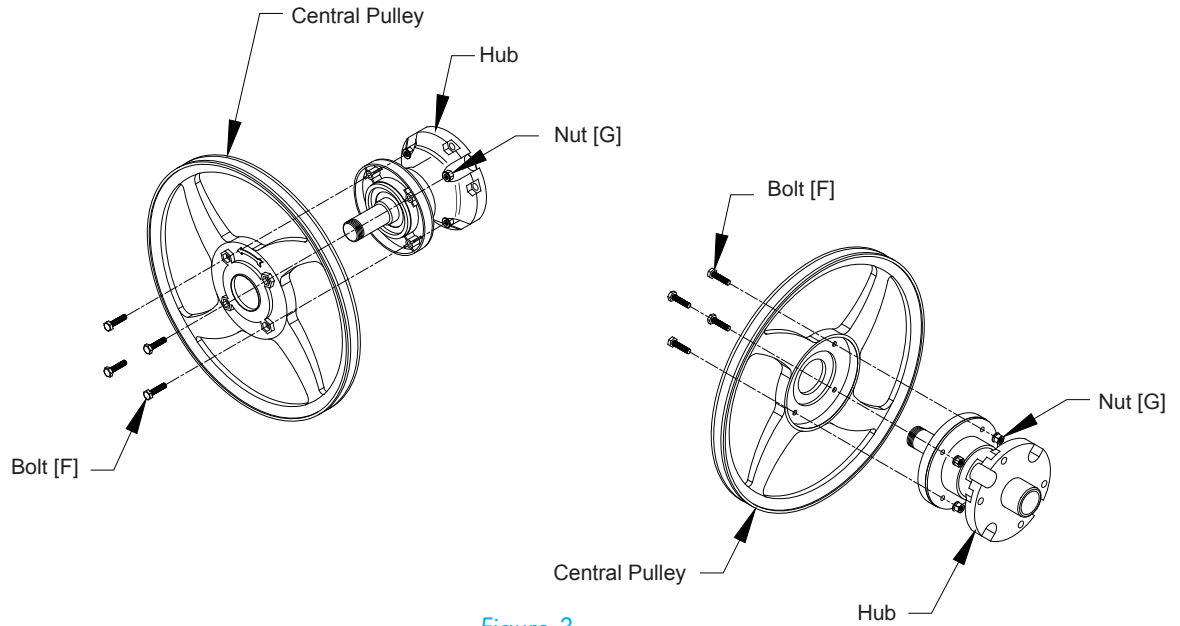

Figure 3
Attach Central Pulley to Hub using (4) Bolts [F] and Nuts [G] and tighten to 14 Nm.. See Figure 3.